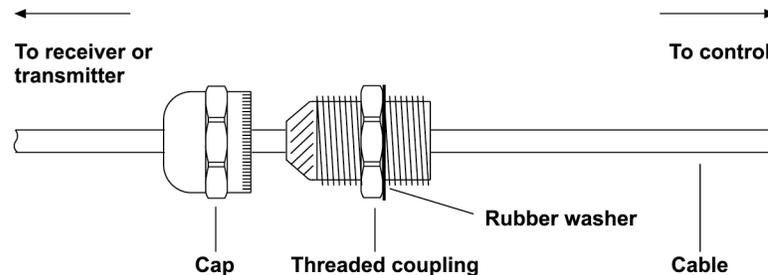

Figure 2-28. Cable Being Threaded through Top of Gland Nut and Threaded Coupling
6. Thread the receiver cable through the hole in the top of the plastic gland nut (see *Figure 2-28*), then through the hole in the tapered end of the threaded coupling. Slide both components well down the cable so they are out of the way.